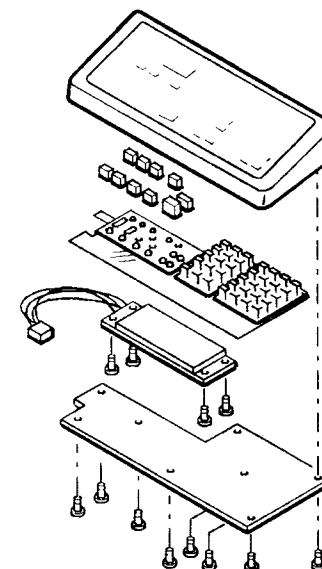

Figure 1. Front cover
4. Remove eight screws (Figure 1) retaining the key board PWB.
5. Remove four screws (Figure 1) retaining the display and separate both the PWB and display from the front cover.